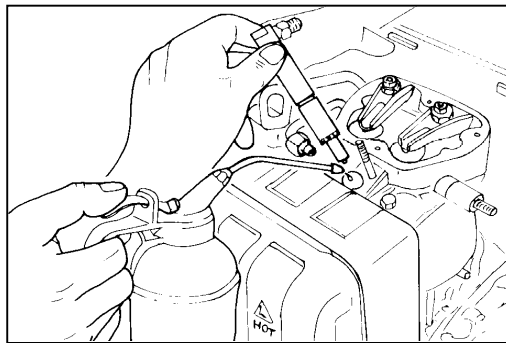

Figure 6
- ❖ Remove injector (figure 25, #15), pour a spoonful of oil SAE 30 into the cylinder and rotate engine manually to distribute the oil. Refit the injectors (figure 25, #15). See figure 6.